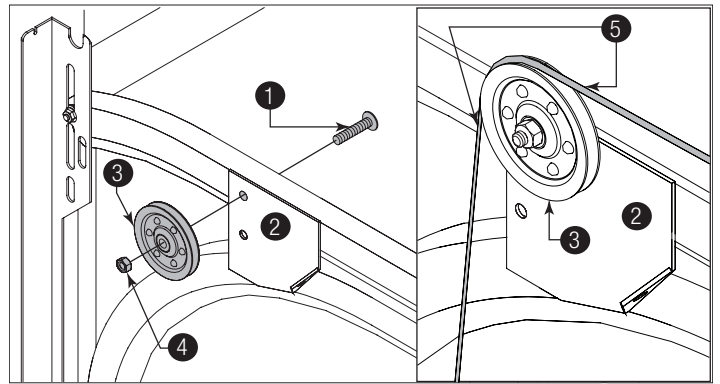
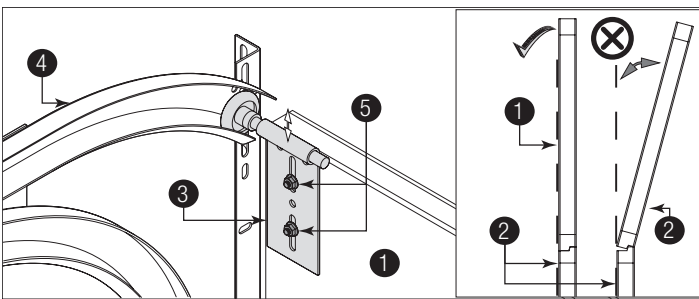
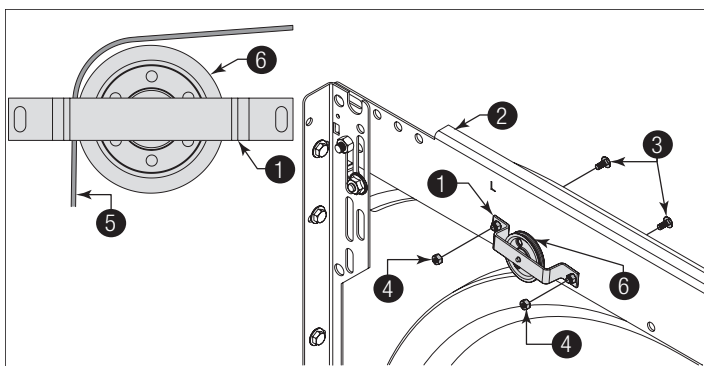

Figure 43, Left Side Shown
Figure 42, Left Side Shown
Figure 44, Left Side Shown
See Figure 43 and Figure 44 for the following steps.
See Figure 42 for the following steps.
**IMPORTANT:** Depending on your door application, use Figure 42, Figure 43 or Figure 44, shown below to assemble your torsion counterbalance system.